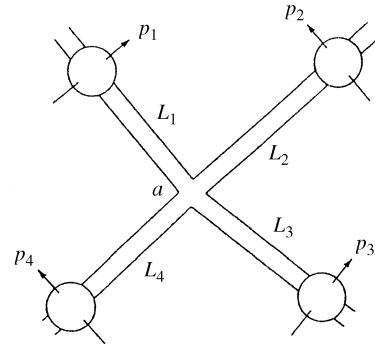

Fig. P6.129
**6.129** In Fig. P6.129 all four horizontal cast-iron pipes are 45 m long and 8 cm in diameter and meet at junction *a*, delivering water at 20°C. The pressures are known at four points as shown: